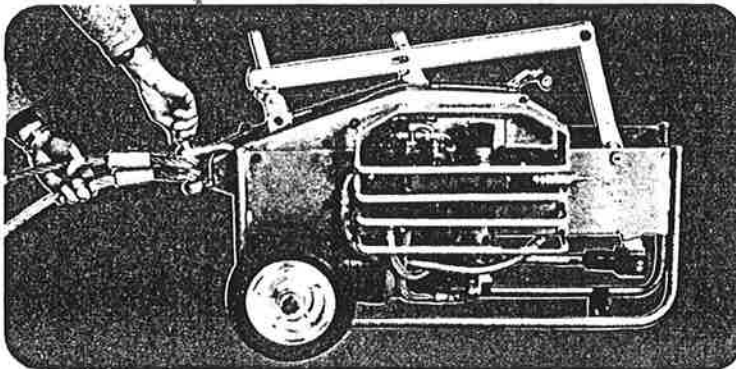

Fig. 1
4.1. - Fig. 1 : to anchor the hoist with its anchor pin to a fixed point using an appropriate capacity sling.